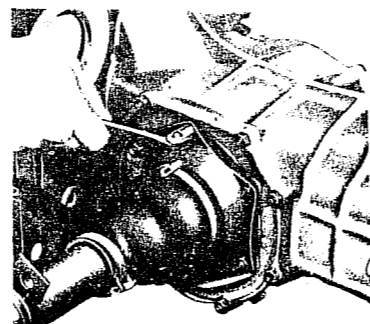

Fig. F.7. Removing the axle tube retainer. - Swing axle.
4. Remove the 6 nuts which attach the axle tube retainer to the side of the transmission case (Fig. F 7).